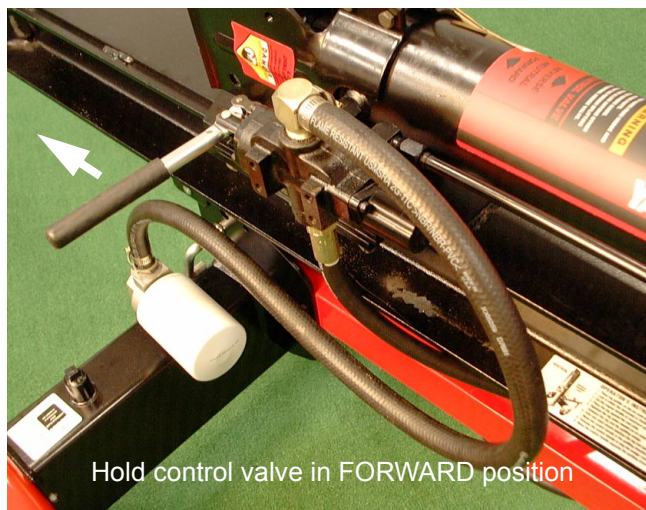

Figure 2
3. Move the control valve handle to the forward position until the wedge assembly is at the end of its travel. \_\_\_\_ See Figure 2.